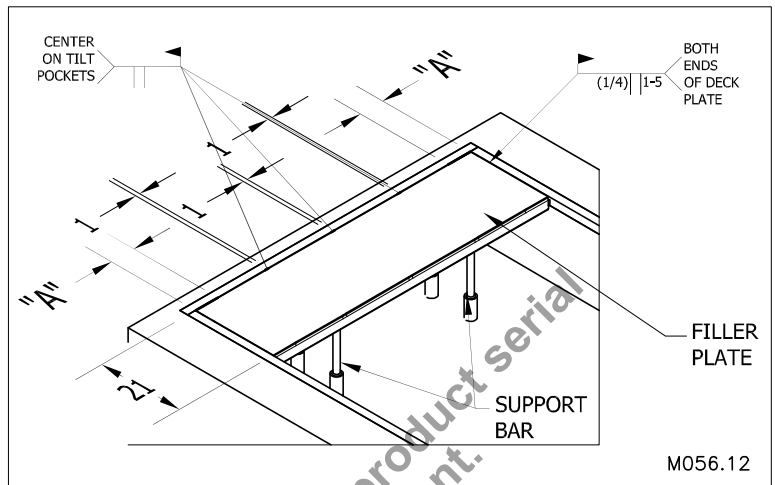

Figure 25: Installing the filler plate
11. Place the filler plate on top of the rectangular tubes as indicated in "Figure 25: Installing the filler plate" on page 19 making sure the filler plate sits flat and square to the rear and side curb angles.
12. Weld 1 inch butt weld at the mark off locations on the deck plate as indicated in "Figure 25: Installing the filler plate" on page 19.